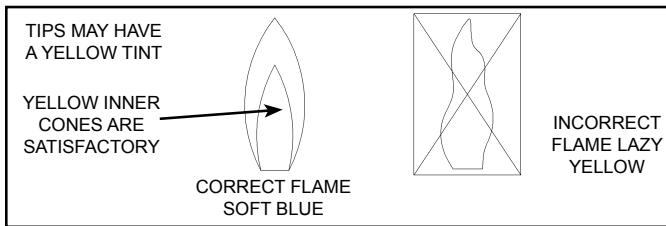
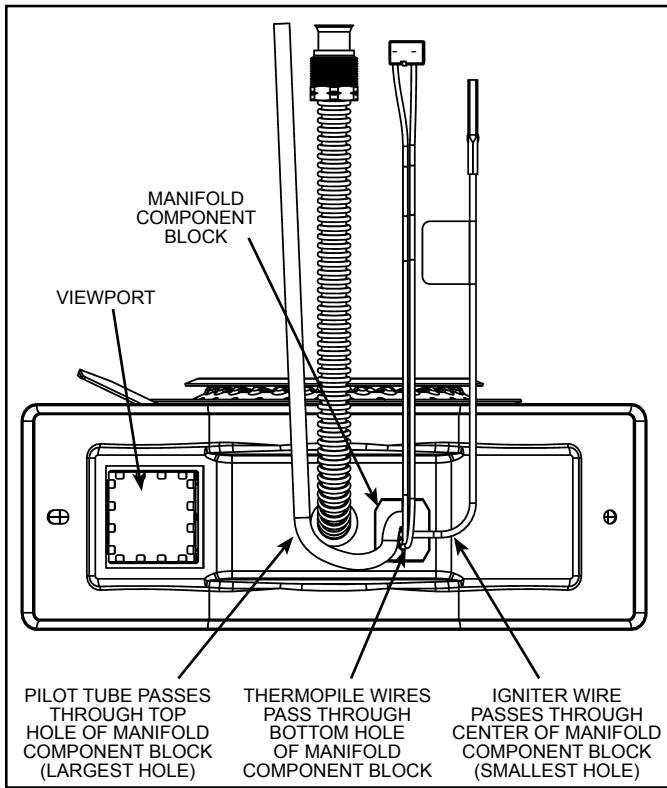

Figure 32
Figure 38
At least once a year a visual inspection should be made of the main burner and the pilot assembly for proper flame characteristics. This can be done by removing the Outer Door and viewing the main burner operation through the Viewport on the Inner Door (see Figure 38). The main burner should provide complete combustion of gas, ignite rapidly, give reasonably quiet operation, and cause no excessive flame lifting from the burner ports. If the proper flame characteristics are not evident (see Figure 32), make sure that the flow of combustion and ventilation air is not blocked in the venting system. You should also check for sooting. Soot is not normal and will impair proper combustion.
Inspect the burner flames through the viewport and compare them to the drawings in Figure 32. A properly operating burner should produce a soft blue flame. Blue tips with yellow inner cones are satisfactory. The tips of the flame may have a slight yellow tint. The flame should not be all yellow or have a sharp blue-orange color. Contaminated air may cause an orange colored flame. Contact a qualified service technician if the flame is not satisfactory
- Reinstall the manifold component block in the manifold door. Ensure that the pilot tube and wires are positioned as shown in Figure 38.